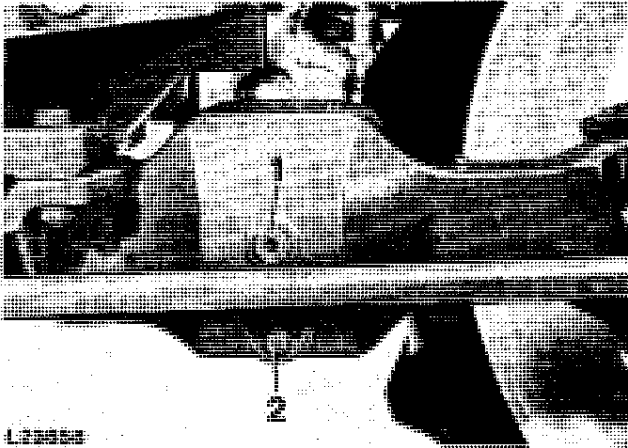

Fig. 8 – Checking Axle Housing Oil Level
1. Remove level plug 1 (fig. 8 or 9). Oil should be level with plug bore.